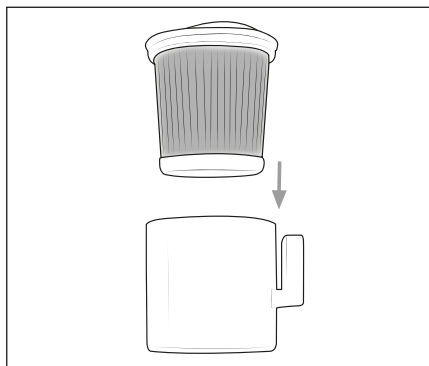

Fig. 20
- 7) Insert the HEPA filter **4** into the HEPA filter holder **5** (see Fig. 20).